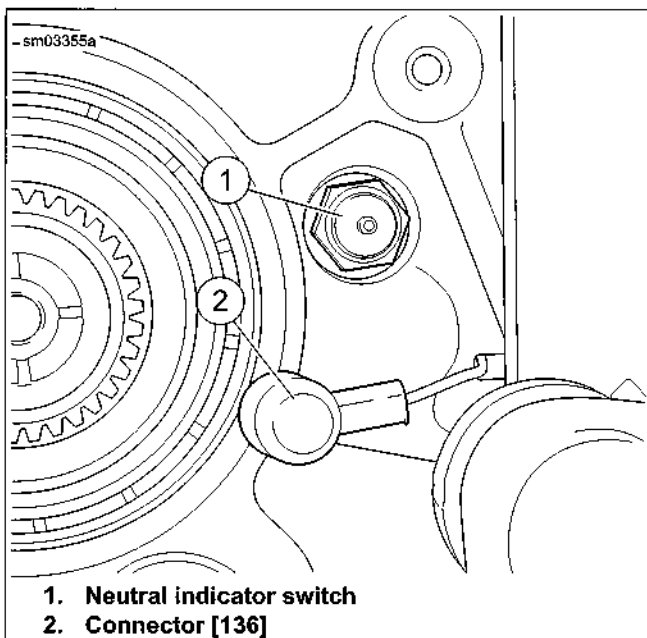

Figure 6-91. Neutral Indicator Switch
See Figure 6-91. The neutral indicator switch (1) is threaded into the right crankcase half immediately forward of the main drive gear. A short jumper wire connects the switch to the harness connector [136] (2) under the engine crankcase.